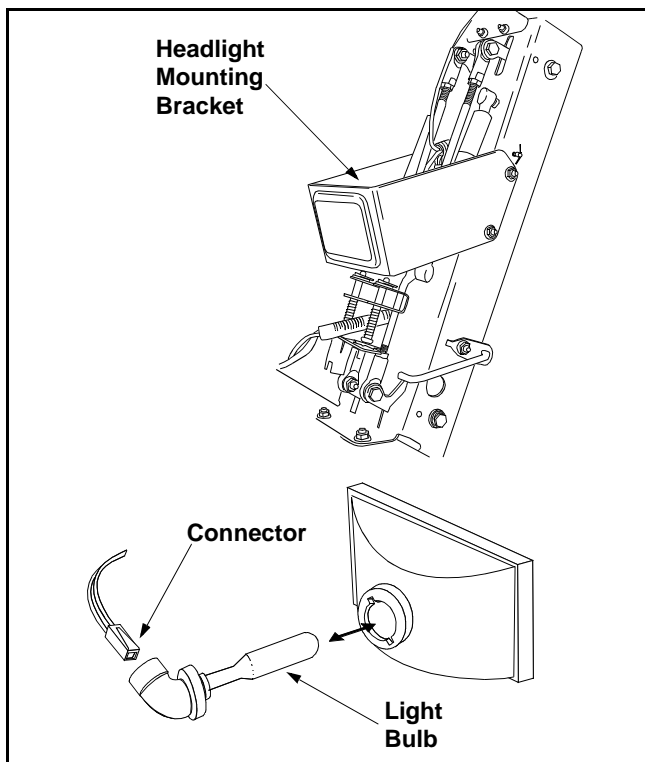

Figure 17
- Locate the rear of the light fixture where the wire attaches. See Figure 17.